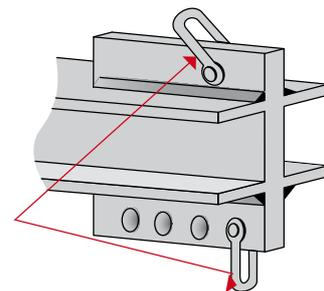

Figure 4. Spreader Bar
- For ease of installation over difficult terrain, 6 metre wide rolls can be laid using a Geofabrics spreader bar (see Figure 4 and refer to safe handling guidelines for proper use)
To get the best performance, make sure the geotextile is laid flat without wrinkles or folds, and follow any instructions for tensioning. Seams should face up so they can be checked and repaired if needed. For 6 metre rolls, we recommend using a Geofabrics spreader bar (see Figure 4 and Safe Handling Risk Analysis for guidance).
The stability of the geotextile on slopes should be confirmed by the design engineer. For safer and easier installation, using a Geofabrics spreader bar is recommended (see Figure 4 and the Safe Handling Risk Analysis).
For safe handling instructions, refer to Figure 4 and the Safe Handling Risk Analysis below.